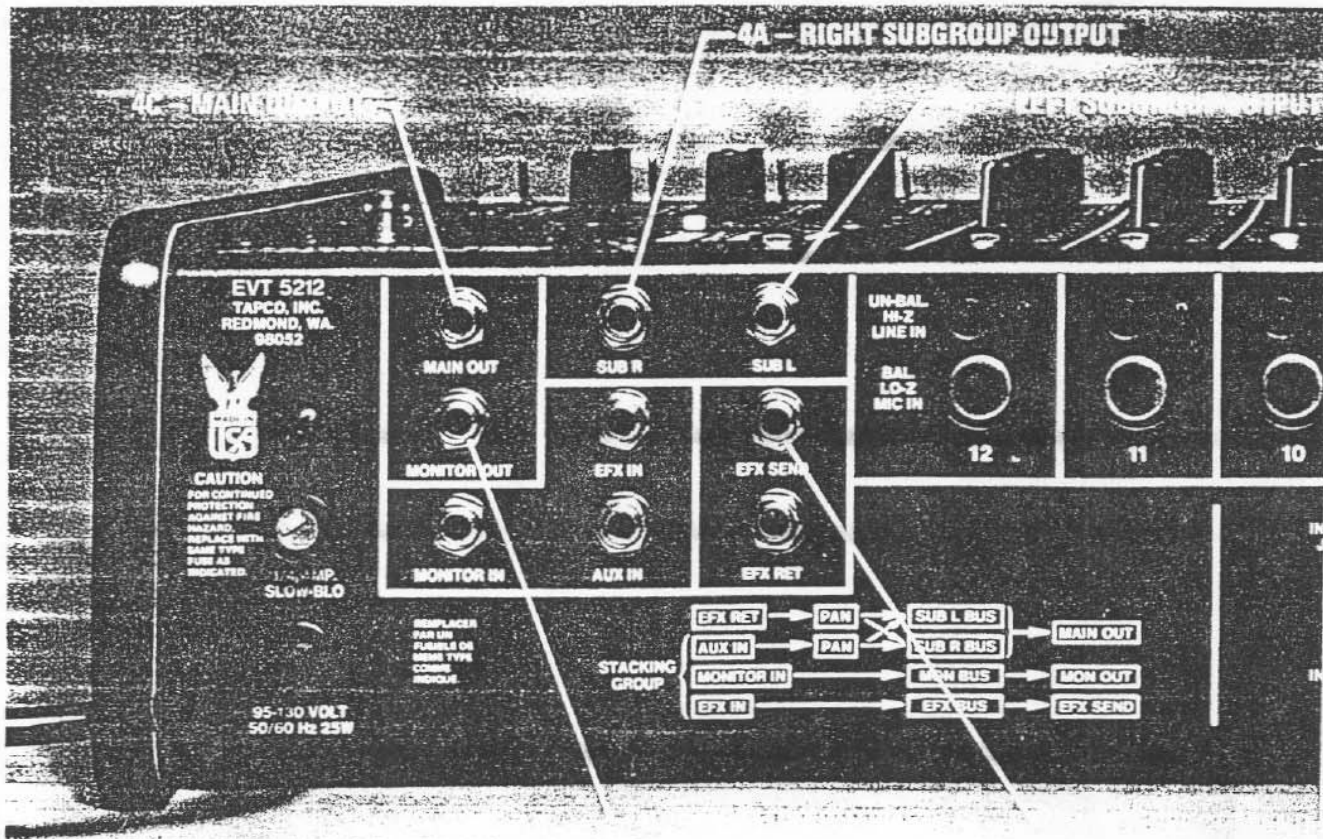

FIGURE 4 – Output Jacks
4. REAR PANEL OUTPUT CONNECTORS (Figure 4)